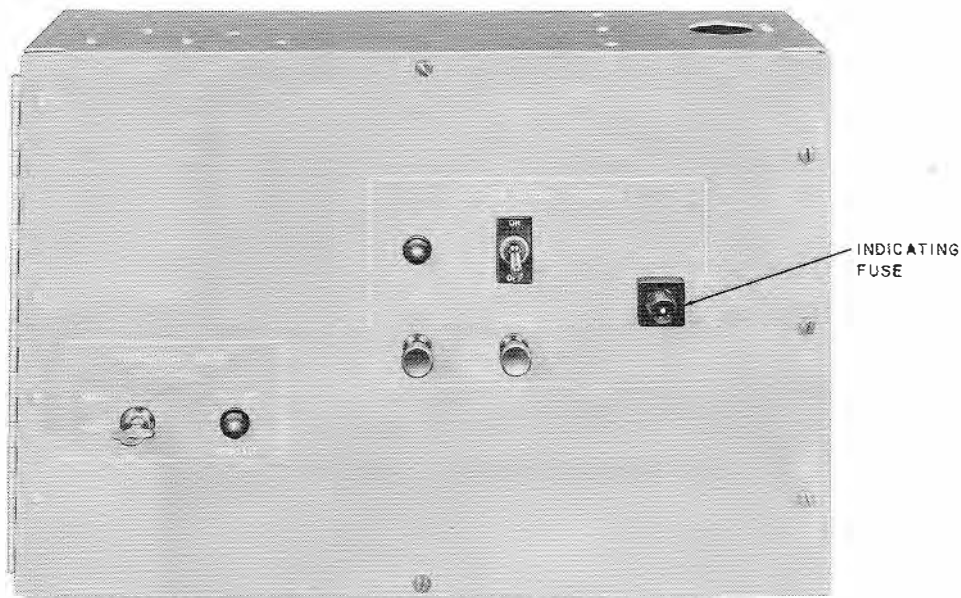

Fig. 3—Electrical Equipment Cabinet
2.03 Activation of the detection unit is caused by a gamma radiation pulse. The radiation pulse reacts with the scintillation plastic producing a light pulse which is picked up by a photomultiplier tube. After converting the light pulse to an electronic pulse, the tube and associated printed circuit board components amplify the signal and send it to the electrical equipment cabinet (Fig. 3) where an output relay is deactivated.